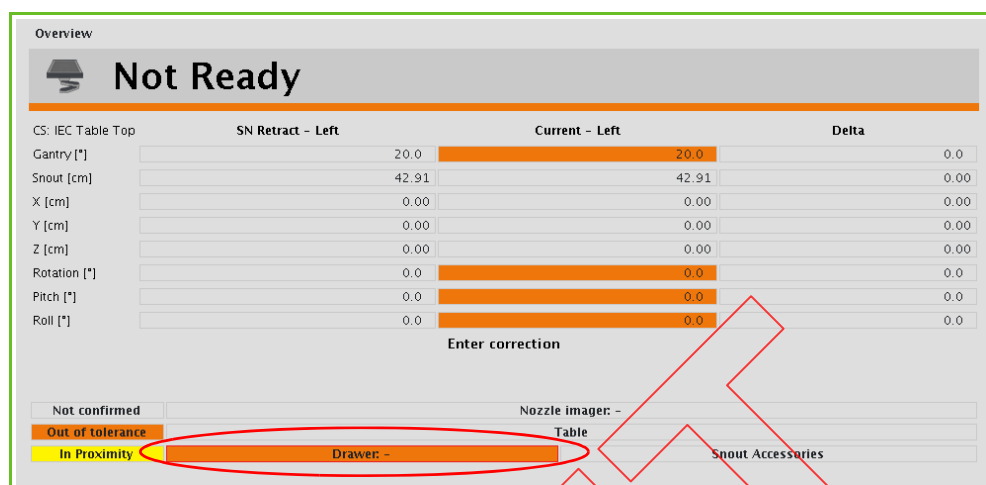

Figure 43-12. PMS Interface Panel, with Blocking Selection
- Orange, **with a red frame:** these settings are blocking, even in Physics mode (see Figure 43-12, where the drawer is still in the beam path).